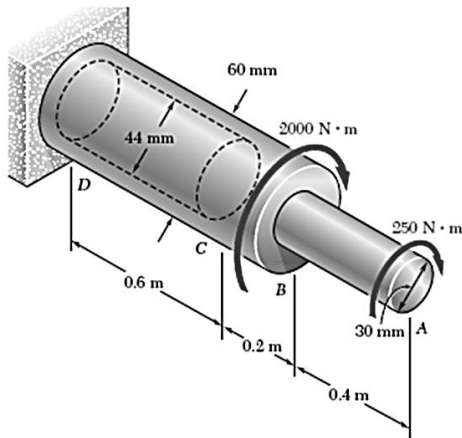

Fig. 5
5. The horizontal shaft AD is attached to a fixed base at D and is subjected to the torques shown. A 44-mm-diameter hole has been drilled into portion CD of the shaft. Knowing that the entire shaft is made of steel for which  $G = 77 \text{ GPa}$ , determine the angle of twist at end A. (Fig. 5)